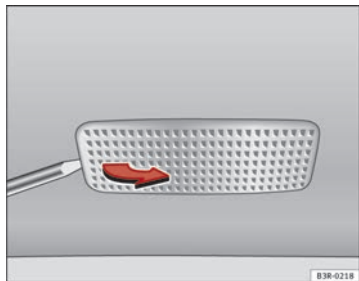

Fig. 224 Removing sun visor light
- Remove the bulb carefully, using the flat part of a screwdriver ⇒ fig. 224.